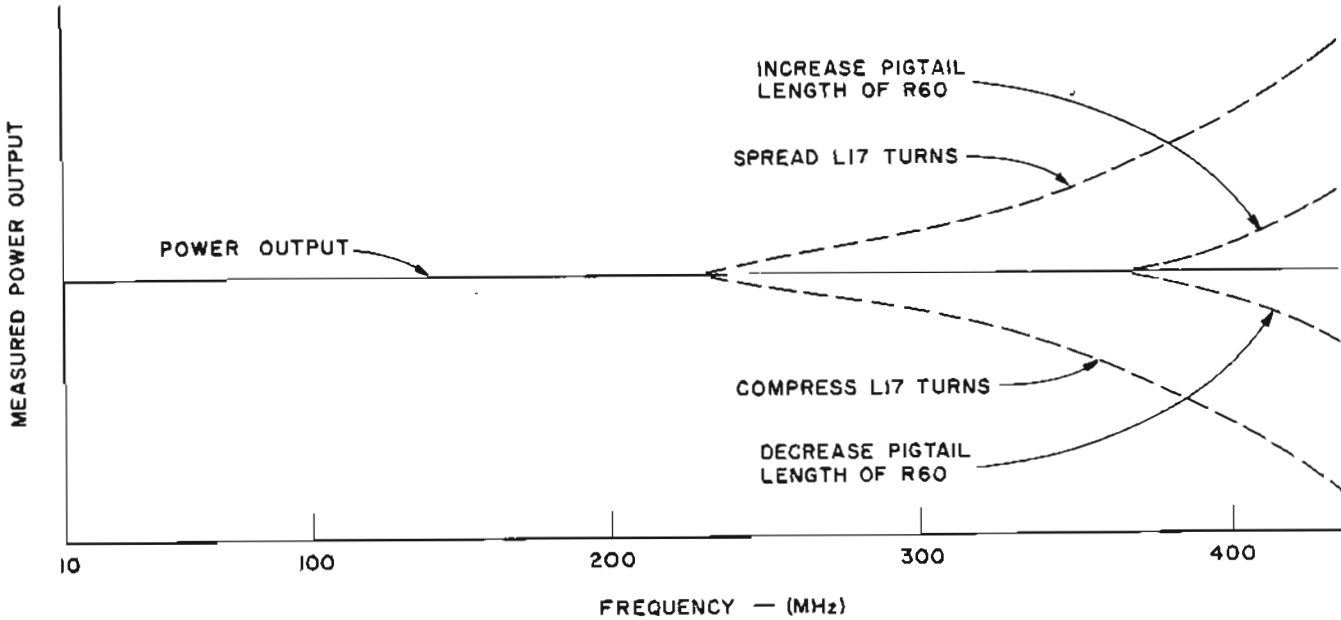

Figure 5-18. Frequency-Response Adjustments
p. Check E band. If power output is not within specifications, adjust either coil L17 or resistor R60 (see Figures 5-18 and 5-19). After adjusting either L17 or R60, always repeat RF OUTPUT meter adjustments, as in paragraph 5-44.